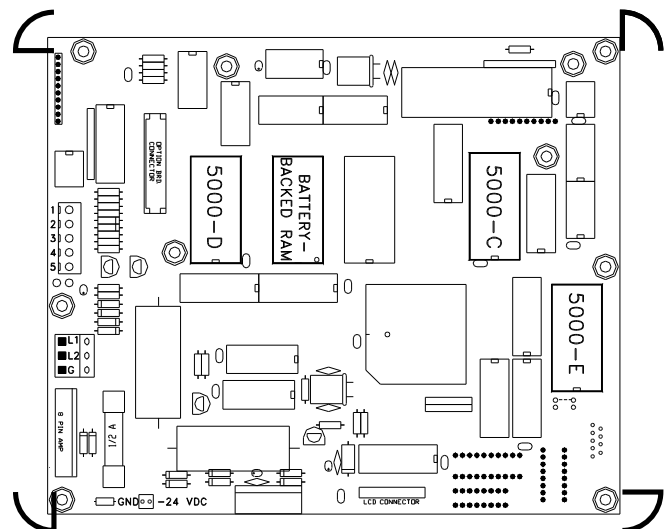

Figure A.6: Operator Interface Terminal Circuit Board
- ◆ Using Figure A.6, locate and remove chips 5000-C, 5000-D, and 5000-E.